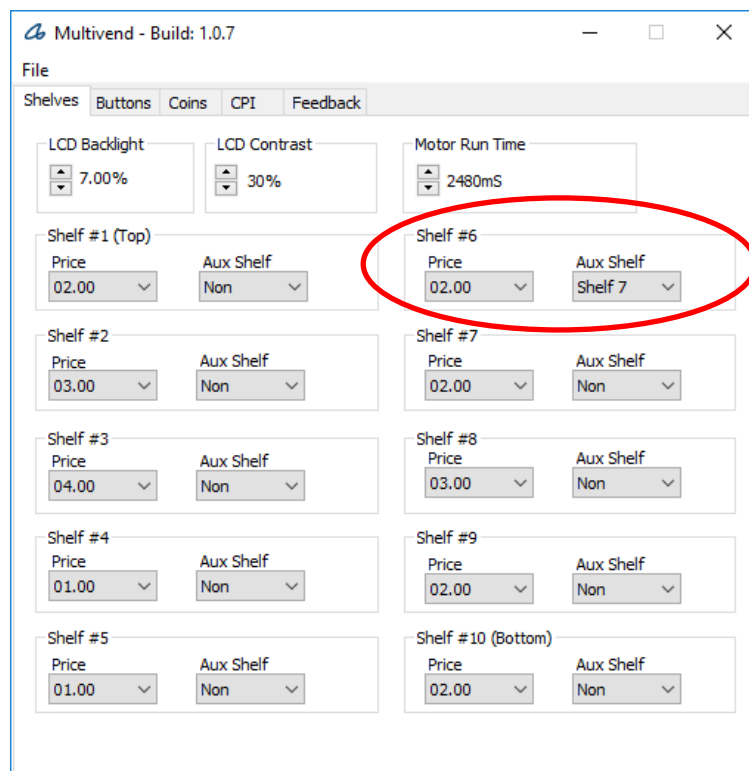
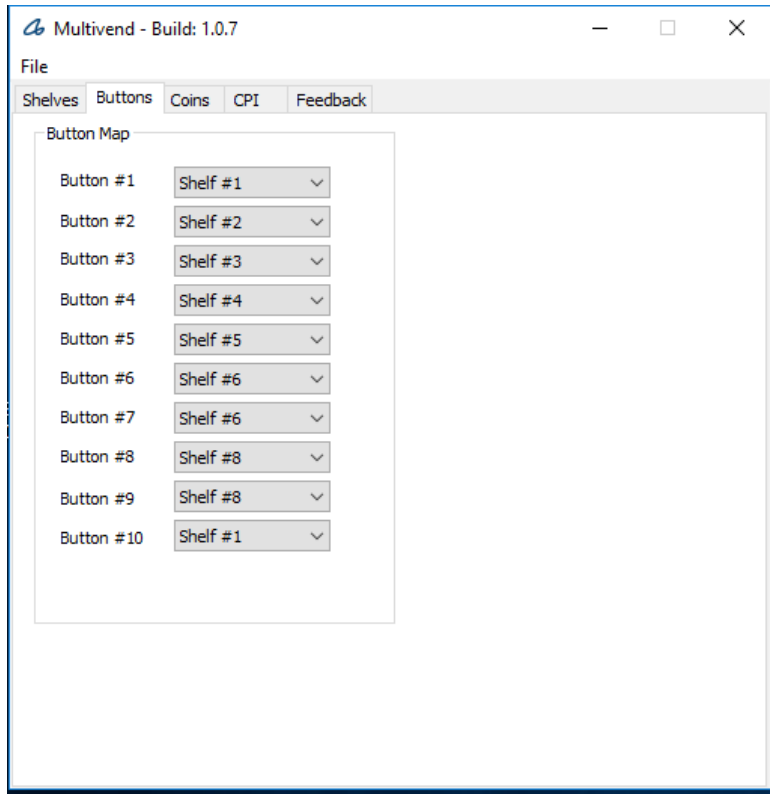

Figure 6.3 - Multivend Desktop App – Aux Shelf example.
Figure 6.4 - Multivend Desktop App – Aux Shelf button example.
See Fig 6-3 and 6-4
- a) Select the Aux Shelf dropdown box on the Shelves tab of the Multivend app for the primary shelf of your choice (for example Shelf 6 in Fig 6.3 below).
- b) Select the secondary shelf you would like the machine to look towards once the primary shelf has been emptied (for example, in this case the user has asked the machine to look toward shelf 7 in Fig 6.4).
- c) Repeat process (a) and (b) if you would like the machine to look toward a third shelf. If not, leave the Aux shelf setting as “Non” on the secondary shelf, to stop the machine from looking for another shelf. In the example below in Fig 6.3, it can be seen the machine will not look any further than shelf 7 (the shelf 7 section has been set to “Non”).
- d) Once the settings have been updated on the Shelves tab of the Multivend as seen in Fig 6.3. Select the Buttons tab on the app as shown in Fig 6.4.
- e) Set the button to shelf relationship to suit the settings on the Shelves tab (in Fig 6.4, it can be seen the user has set button 6 & 7 to look at shelf 6 as the primary shelf).